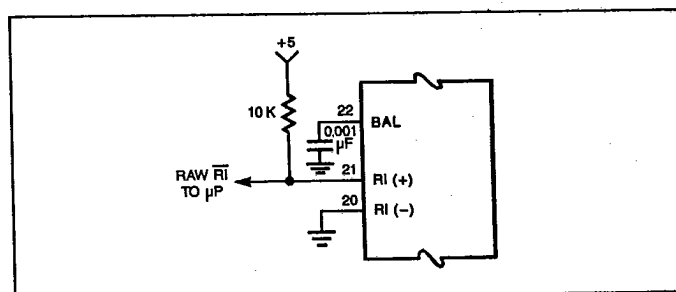

Figure 3b. Simple Ring Detect
To reduce the component count, the circuit shown in Figure 3b can feed directly to a microprocessor input port and the signal debouncing can be done in software. The pulse frequency during the ring is twice that of the signal from the phone company central office (CO). The phone company's signal is usually 20 Hz but older systems may range from 15.3 to 68 Hz.